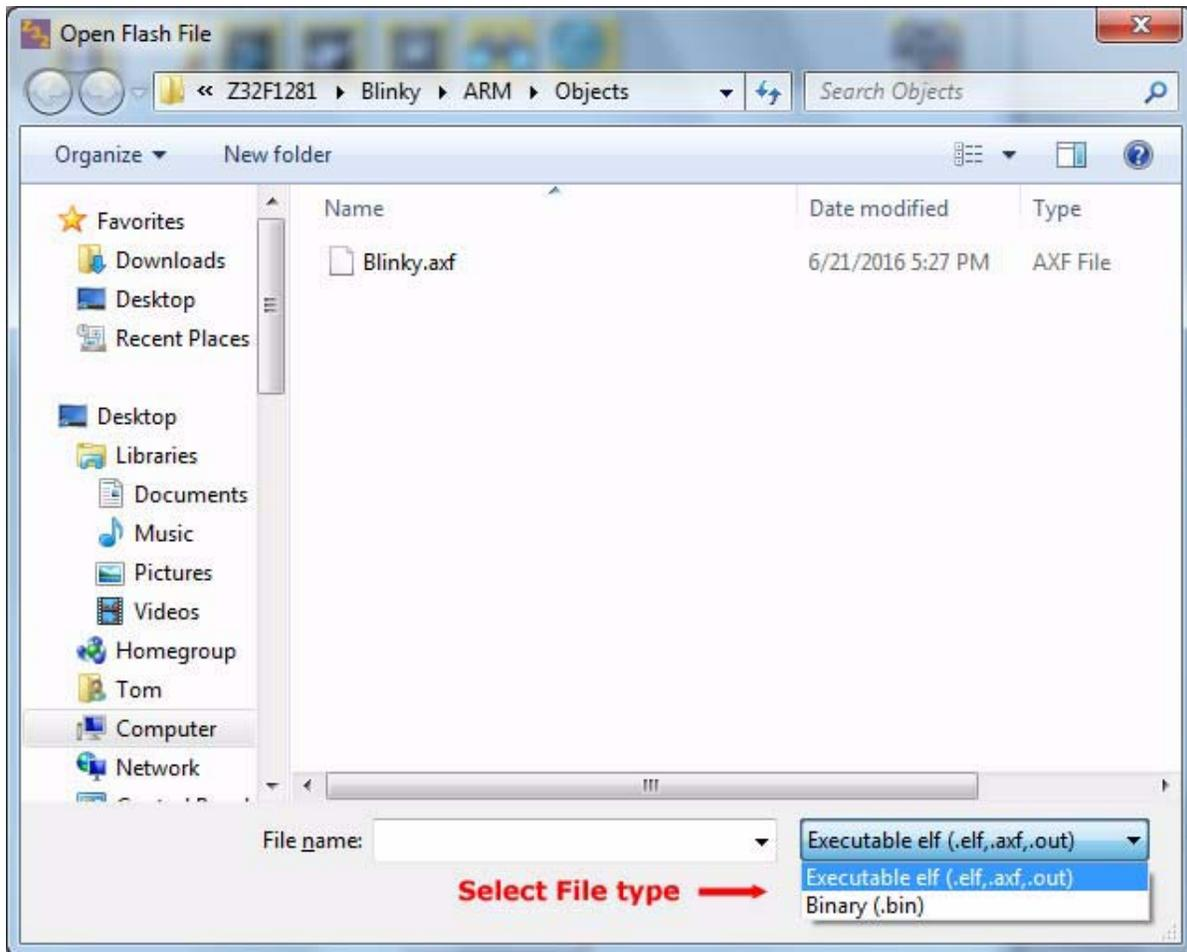

Figure 20. Open File Dialog
2. In the **Open File** dialog that appears, shown in Figure 20, select the image file and click **Open**.